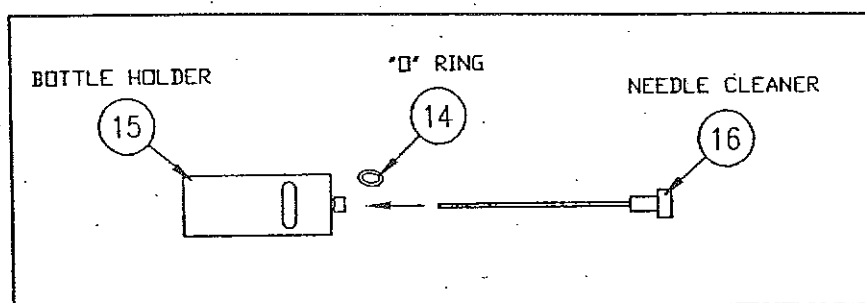

FIGURE 14-5 NEEDLE CLEANER
4. Prior to each test, remove "O"-ring (14) from the bottle holder (15), carefully remove the needle cleaner (16) from the protective sheath, run the needle cleaner through each of the two holes at the bottom of the bottle holder to assure that the needle airways are not blocked (Figure 14-5).